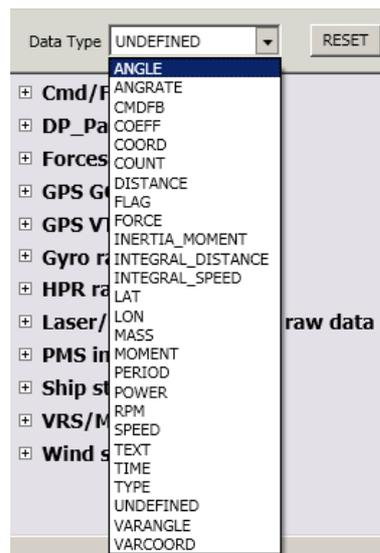

Figure H.24: Time Series Plot. Data Type
- select parameters relating to data properties (angle, moment, speed, etc) from “Data Type” list (see figure H.24):